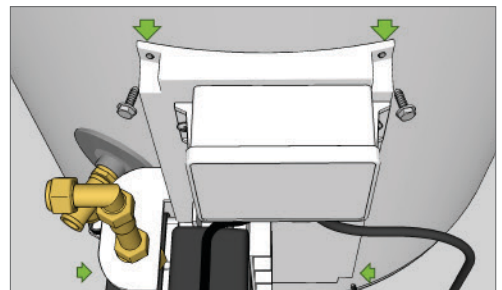

Fig 3
2. Ensuring the controller is located at the top and the base plate is plumb, fix the base plate to the tank using 4 x tek screws provided (Fig 3)